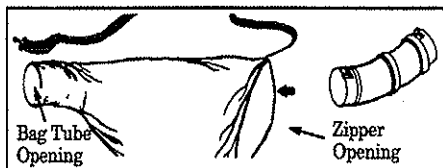

Figure 3
2. Insert the Elbow Tube through the zipper opening in the vacuum bag (Figure 3). Then, push the end of the Elbow Tube with the recessed grooves through the bag tube opening in the other end of the bag. Figure 3. Make sure the bag tube opening is flush against the tube flange.